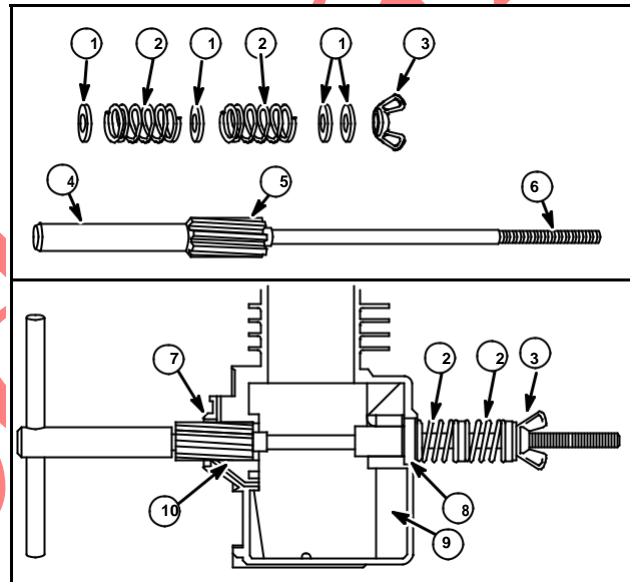

Fig. 6
Typical tools include: flat washers (1), large valve springs (2), wing nut (3), pilot, Tool #19066 (4), counterbore reamer (5), threaded extension (6, optional), reamer guide bushing (7), pilot guide bushing (8), Fig. 6.
3. Place pilot guide bushing (8) in the bearing opposite the bearing to be repaired (10). Flange of bushing should be on the inside of the crankcase.
If the tool is modified, place pilot guide bushing flange (8) on the outside of crankcase, Fig. 6.
4. Assemble the flat washers (1), large valve springs (2), reamer (5), and wing nut (3) to pilot tool.